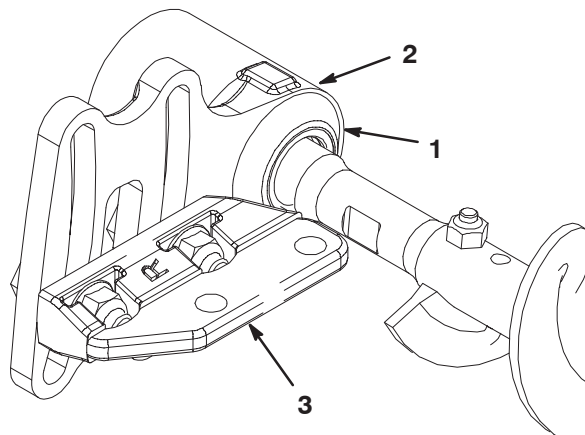

Figure 10
9. Slide each excluder seal outward until the lip seals are in light contact with each bearing housing (Fig. 10).